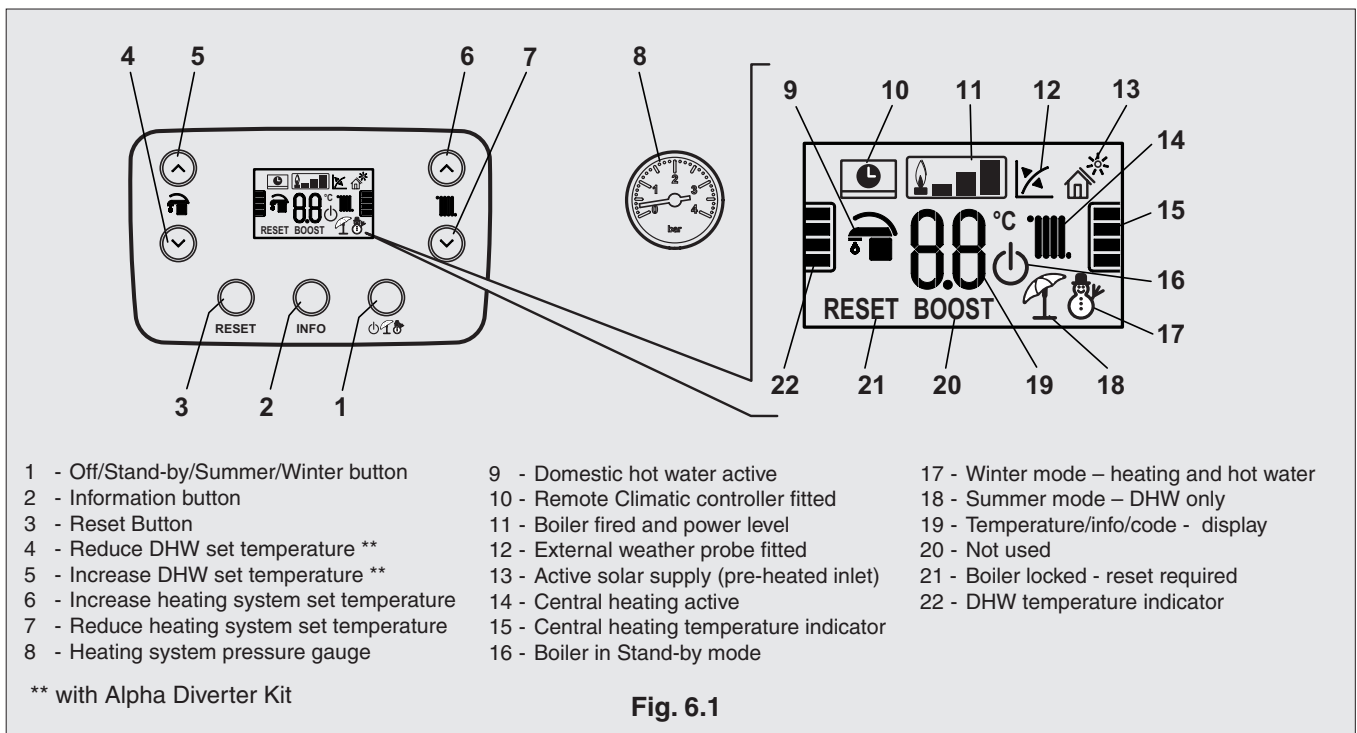

Fig. 6.1
6.2 BOILER CONTROLS - Fig. 6.1
6.4 INITIAL LIGHTING - Refer to Fig. 6.1
Press the () button, (item 1 in Fig. 6.1) repeatedly to scroll between the three modes Standby (), Summer () or Winter () or press and hold it in for 8 seconds to turn the boiler off (when off a dot appears on the display).
Note: If a weather compensation sensor is fitted (Alpha Diverter Kit required) a gradient value of 1 to 9 is displayed (see Fig. 6.1) when adjusting the central heating temperature. This is because the boiler output is modulated according to outside temperature. Refer to external sensor instructions for further information on this feature and Section 5.11
By pressing the **INFO** button (item 4 in Fig. 6.1) for >1s the information menu is accessed, this will then show the information according to the table below. Scroll through the information using the DHW up and down temperature buttons.